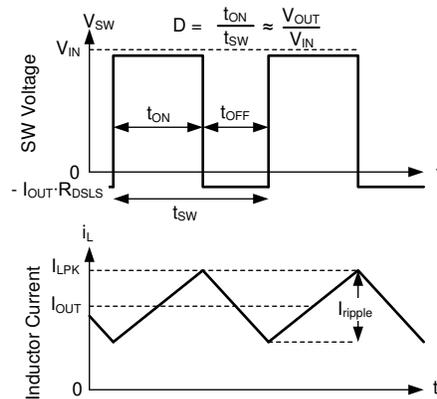

图 9-15. SW Voltage and Inductor Current Waveforms in Continuous Conduction Mode (CCM)
The following operating description of the LM61440-Q1 refers to Figure 9.2 and to the waveforms in Figure 9-15. In CCM, the LM61440-Q1 supplies a regulated output voltage by turning on the internal high-side (HS) and low-side (LS) NMOS switches with varying duty cycle (D). During the HS switch on-time, the SW pin voltage, V_{SW} , swings up to approximately V_{IN} , and the inductor current, i_L , increases with a linear slope. The HS switch is turned off by the control logic. During the HS switch off-time, t_{OFF} , the LS switch is turned on. Inductor current discharges through the LS switch, which forces the V_{SW} to swing below ground by the voltage drop across the LS switch. The converter loop adjusts the duty cycle to maintain a constant output voltage. D is defined by the on-time of the HS switch over the switching period: